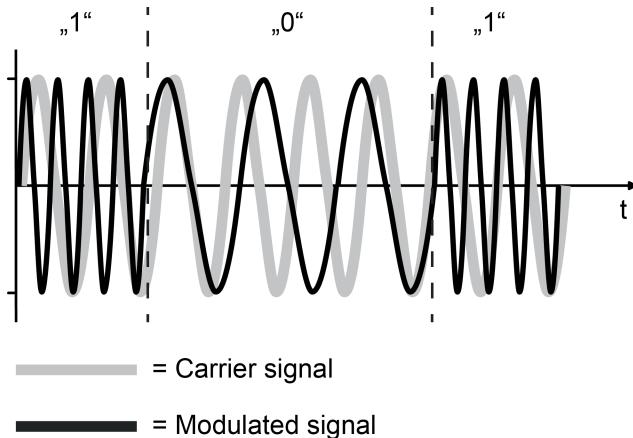

Figure 26: Frequency key shifting as a modulation method (FSK = Frequency Shift Keying)
An electromagnetic wave of a constant amplitude and frequency does not yet carry any information. To make this possible, the transmitter must change the amplitude or the frequency of the wave continuously according to an agreed method and the carrier signal must modulate the information in this manner. With KNX RF, the modulation type "Frequency key shifting" (FSK = Frequency Shift Keying) is used (Figure 26). Frequency key shifting is a variant of frequency modulation (FM) and suitable for the transmission of digital information. Two time-coded signals of a different frequency are transmitted, in order to inform the receiver of the logical states "0" and "1". Frequency key shifting is impervious to interference. Even major transmission losses in signal amplitude do not have a negative effect on the demodulation of the transmitted information.